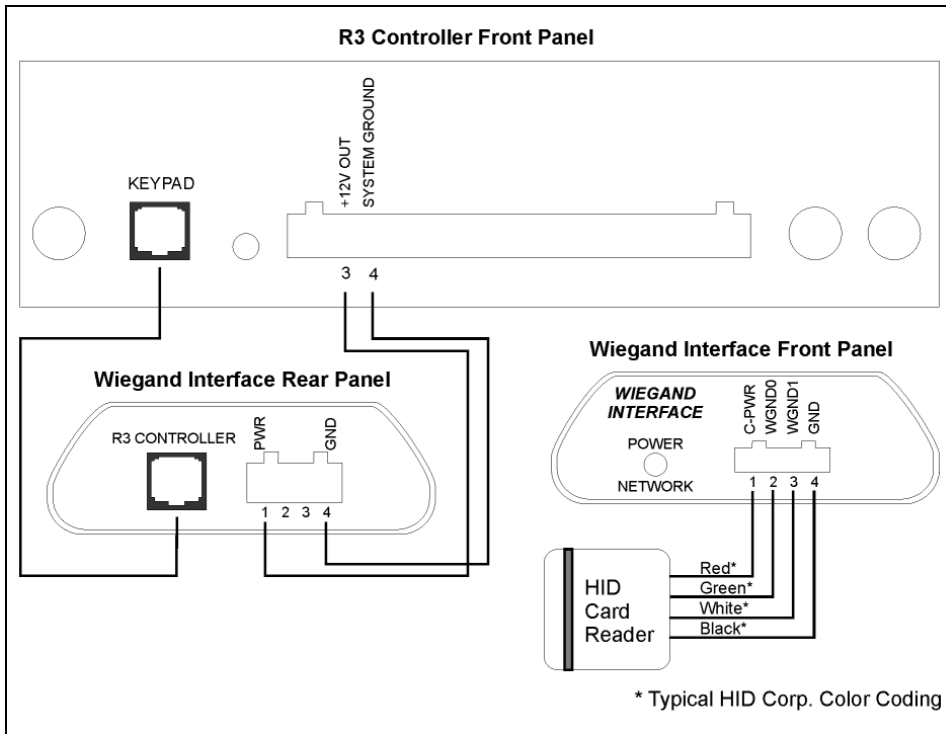

Figure 3-9: Wiegand Wiring Diagram (Card Reader Powered by Controller)
- 3 Refer to Figure 3-9 on page 3-22. If the card reader is powered by the controller: